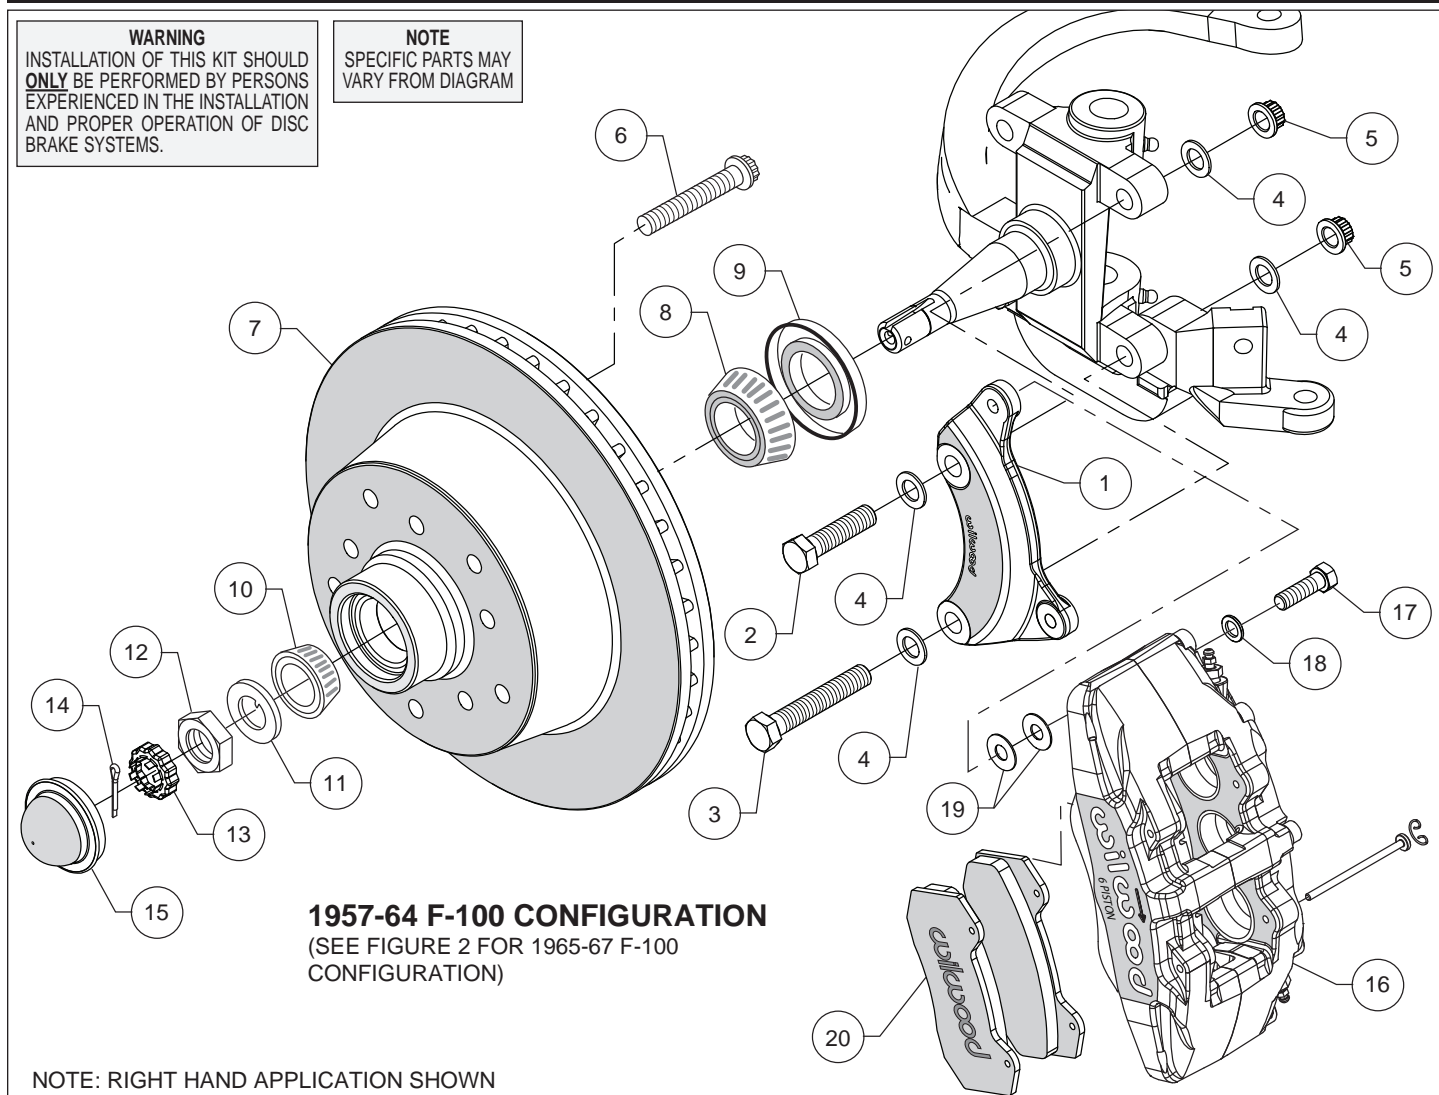

Figure 1. Typical Installation Configuration, Model Years 1957-1964
Assembly Instructions (numbers in parenthesis refer to the parts list, on the preceding page and Figure 1).
- Orient the caliper mount bracket (1) as shown in Figure 1 or 2, and Photo 1, and install using bolts (2 and 3), washers (4) and nuts (5). Temporarily tighten the mounting bolts. **NOTE:** The bracket must fit squarely against the mount bosses on the upright. Inspect for interference from casting irregularities, machining ridges, burrs, etc. Torque lock nuts to 65 ft-lb.
- Install wheel studs (6) into the hub (7), Photo 2. Apply red *Loctite*® 271 to the threads and torque to 77 ft-lb. **NOTE:** There are two five lug patterns in the hub (5 x 4.50 and 5 x 5.50). Ensure the correct hub stud pattern is being used to fit the wheel application.
- Pack the large inner bearing cone (8) with high temperature disc brake bearing grease (available from your local auto parts store) and install into the backside of the hub (7), Photo 3.
- Install the grease seal (9, years 1957-1964) or (9A, years 1965-1967) by pressing into the backside of the hub (7), flush with the end of the hub.
- Press the dust cap (15) into the hub (7), Photo 6. **NOTE:** Do not hammer center of cap. Install using outer flange only.
- NOTE:** This kit contains distinct right and left hand calipers that must be mounted in a specific direction, as described below. Mount the caliper (16) onto the caliper mounting bracket (1) using bolts (17) and washers (18), as shown in Figure 1 or 2. Initially place two .035" thick shims (19) on each bolt between the caliper and the bracket, Photo 7. Ensure that the caliper is mounted so the largest pistons are at the rotor exit end of the caliper, in relation to the direction of rotor rotation. Temporarily tighten the mounting bolts and view the rotor (7) through the top opening of the caliper. The rotor should be centered in the caliper, Photo 8. If not, adjust by adding or subtracting shims (19) between the bracket and the caliper. Always use the same amount of shims on each of the two mounting bolts. If necessary place spare shims between washer (18) and caliper mounting ear to achieve the proper clinch nut engagement. Once the caliper alignment and clinch nut engagement are correct, remove the caliper.
- Remove the two pad retaining pins from the caliper (16) by carefully popping out the pin retaining clips and sliding out the pins. Insert the brake pads (20) into the caliper from the bottom, Figure 1 or 2, and Photo 9, with the friction material facing the rotor. Secure the brake pads in place with the pad retaining pins and clips, Photo 10. Reinstall the caliper onto the caliper mounting bracket. Apply red Loctite® 271 to bolt threads (17), and torque to 40 ft-lb.